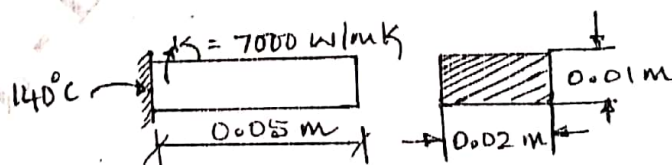

Fig. Q7 (b)
b. Determine the temperature distribution in the rectangular fin as shown in Fig. Q7 (b). Assume steady state and only conduction process. Take heat generated inside the fin as 400 W/m^3 .